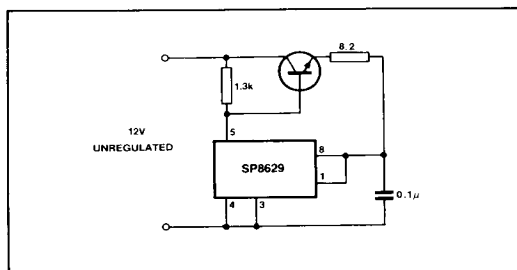

Fig. 8 Use of on-chip zener diode for operation from unregulated supply
5. The on-chip Zener diode allows a simple stabilised power supply to be constructed with the addition of a few extra external components, as shown in Fig. 8, to the SP8629.